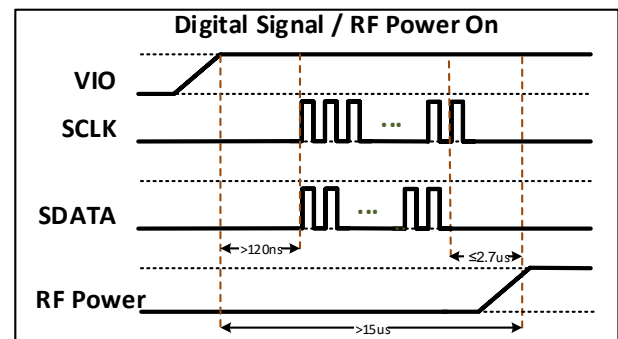

Figure 2 Digital Signal / RF Power-On Detail
2. VIO must be applied for a minimum of 120 ns before sending SDATA/SCLK to ensure correct data transmission. (see figure 2)
3. VIO must be applied for a minimum of 15  $\mu$ s before applying RF power. (see figure 2)
4. Wait a minimum of 2.7 $\mu$ s after RFFE bus is idle to apply an RF signal. (see figure 2)